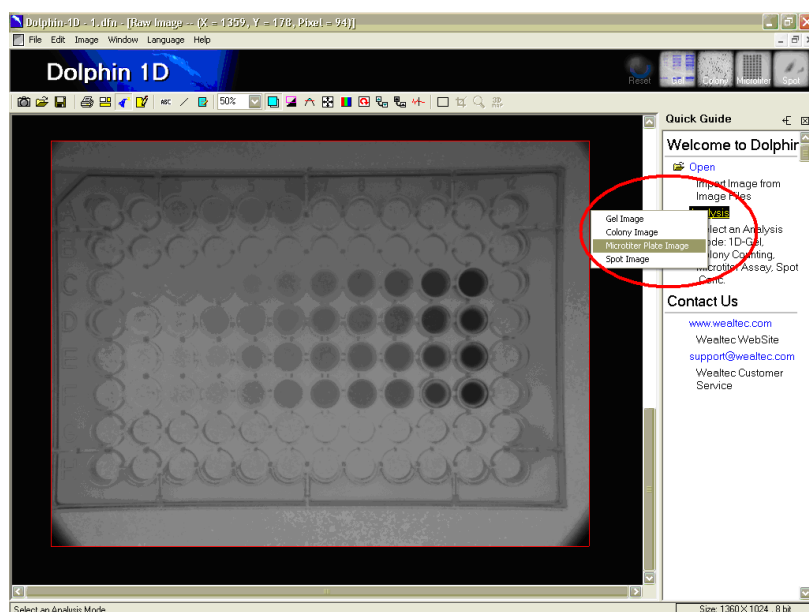

Figure 2. After capturing the image, choose “Microtiterplate Image” to enter the microtiter plate analysis mode
- **Analysis:** “Microtiter Plate Image” was chosen under “Edit”, and the box for white background was ticked (*fig 2*). To open the microtiter assay tool, the monkey-wrench symbol (in the row of buttons above the image) was pressed. This tool can also be opened by choosing “Microtiter Plate tool” under “analysis” or pressing “Microtiter plate tools” in the quick guide window to the right of the captured image.